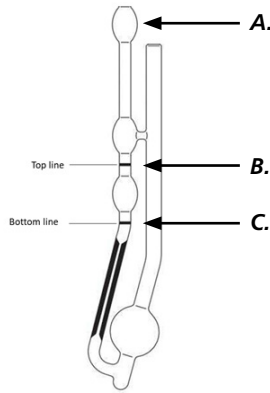

Figure 1
4. Once equilibrated, use the pipette fill bulb (*See figure 1-A. on page 9*) to pull a vacuum on the small tube. The solution will rise past the two marked lines (*See figure 1-B. & C. on page 9*) on the viscometer. Once passed the top line (*See figure 1-B. on page 9*), remove the pipette bulb (*See figure 1-A. on page 9*).
5. The solution will begin to drain. As soon as the meniscus passes the top line (*See figure 1-B. on page 9*) on the viscometer, begin the stopwatch.
6. As the solution drains, watch very closely for it to pass the bottom line (*See figure 1-C. on page 9*) on the viscometer. When that has happened, stop the stopwatch. Record the time in seconds.